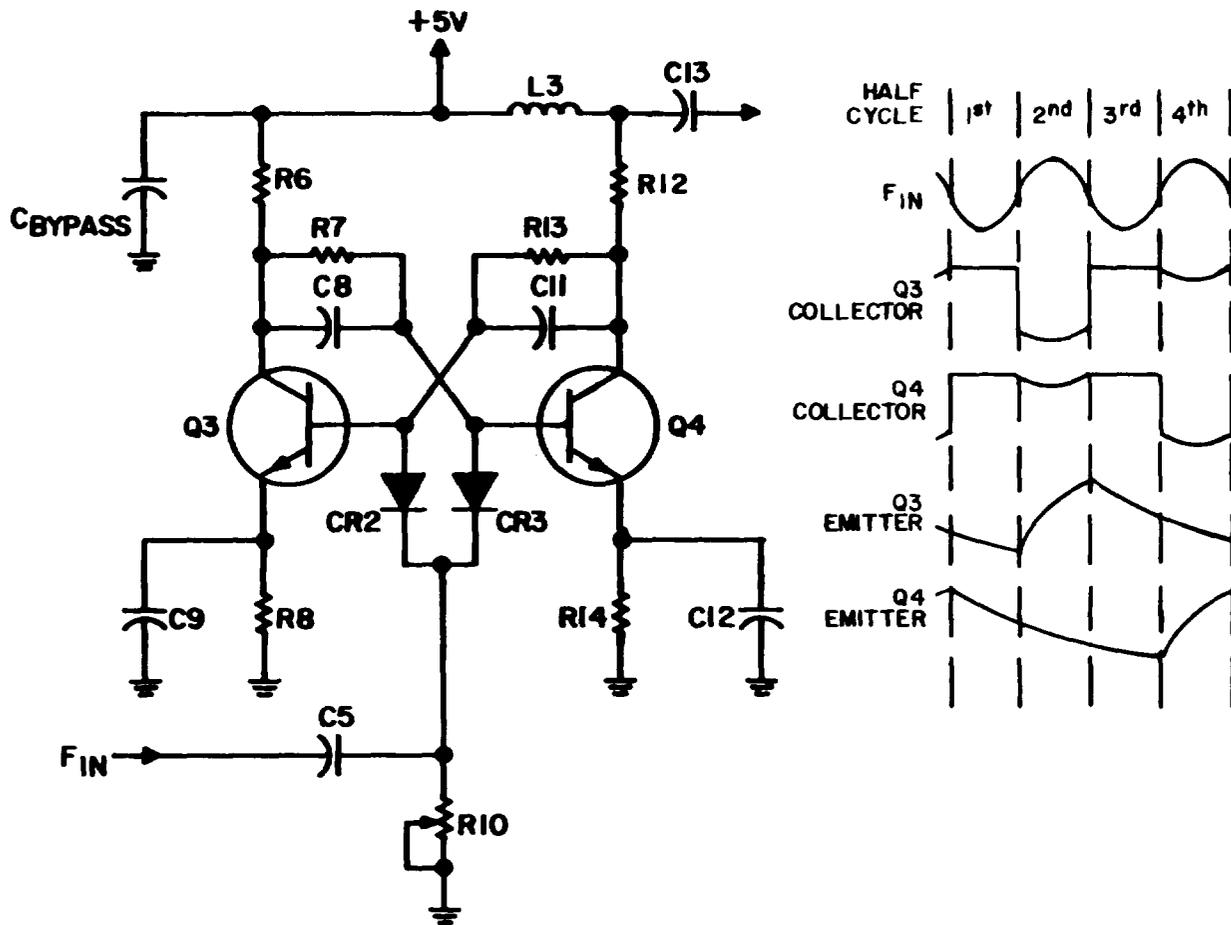

Figure 3-3. Simplified Schematic Diagram, Dynamic Frequency Divider
3.3.2.3 A simplified schematic diagram of the dynamic frequency divider is shown in Figure 3-3. The circuit structure is similar to a conventional steered flip-flop, but there are major differences in switching operations. Determination of which transistor will be triggered by the input signal is not by initial conduction states of the diodes, but by the charges stored in the emitter RC networks. Output waveforms from the transistor's collectors are not always complementary but are negative-going pulses alternating between the collectors, interspersed with periods when both collectors stand high.
3.3.2.4 The switching sequence of the circuit can be best explained by a step-by-step consideration of switching operation, with one-half cycle of the input waveform considered at a time. The following explanation is in conjunction with the simplified schematic diagram and waveforms shown in Figure 3-3. It will be assumed that Q4 was the heavier conducting of the two transistors in the half-cycle prior to the first cycle shown in the diagram.